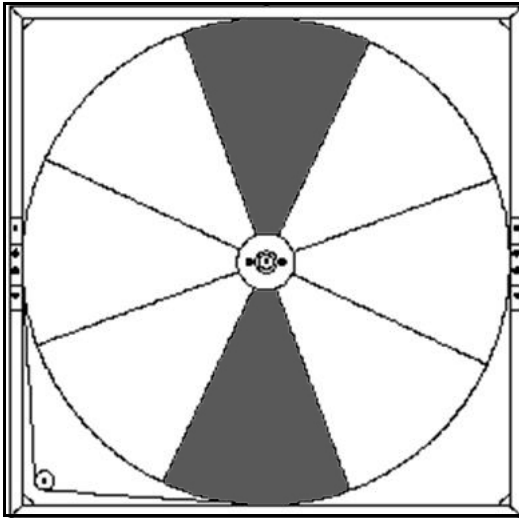

Figure 19 Remove or install opposing segments to minimize wheel imbalance.
An uneven number of segments in the wheel will cause the wheel to accelerate in rotation. Minimize wheel imbalance and unwanted rotation during service by installing or removing opposing segments for even weight distribution, Figure 19. Failure to maintain control of the wheel rotation while removing or installing all segments could cause severe injury to fingers or hands. Always close and secure segment retaining latches before rotating wheel.
- 8 Slowly rotate wheel 180-degrees and remove the opposing segment to re-balance the wheel, Figure 19.
- 5 Rotate first segment 180-degrees and install the opposing segment to re-balance the wheel, Figure 19.
- 6 Repeat until all of the remaining segments are installed, ensuring balance throughout the procedure, Figure 19.